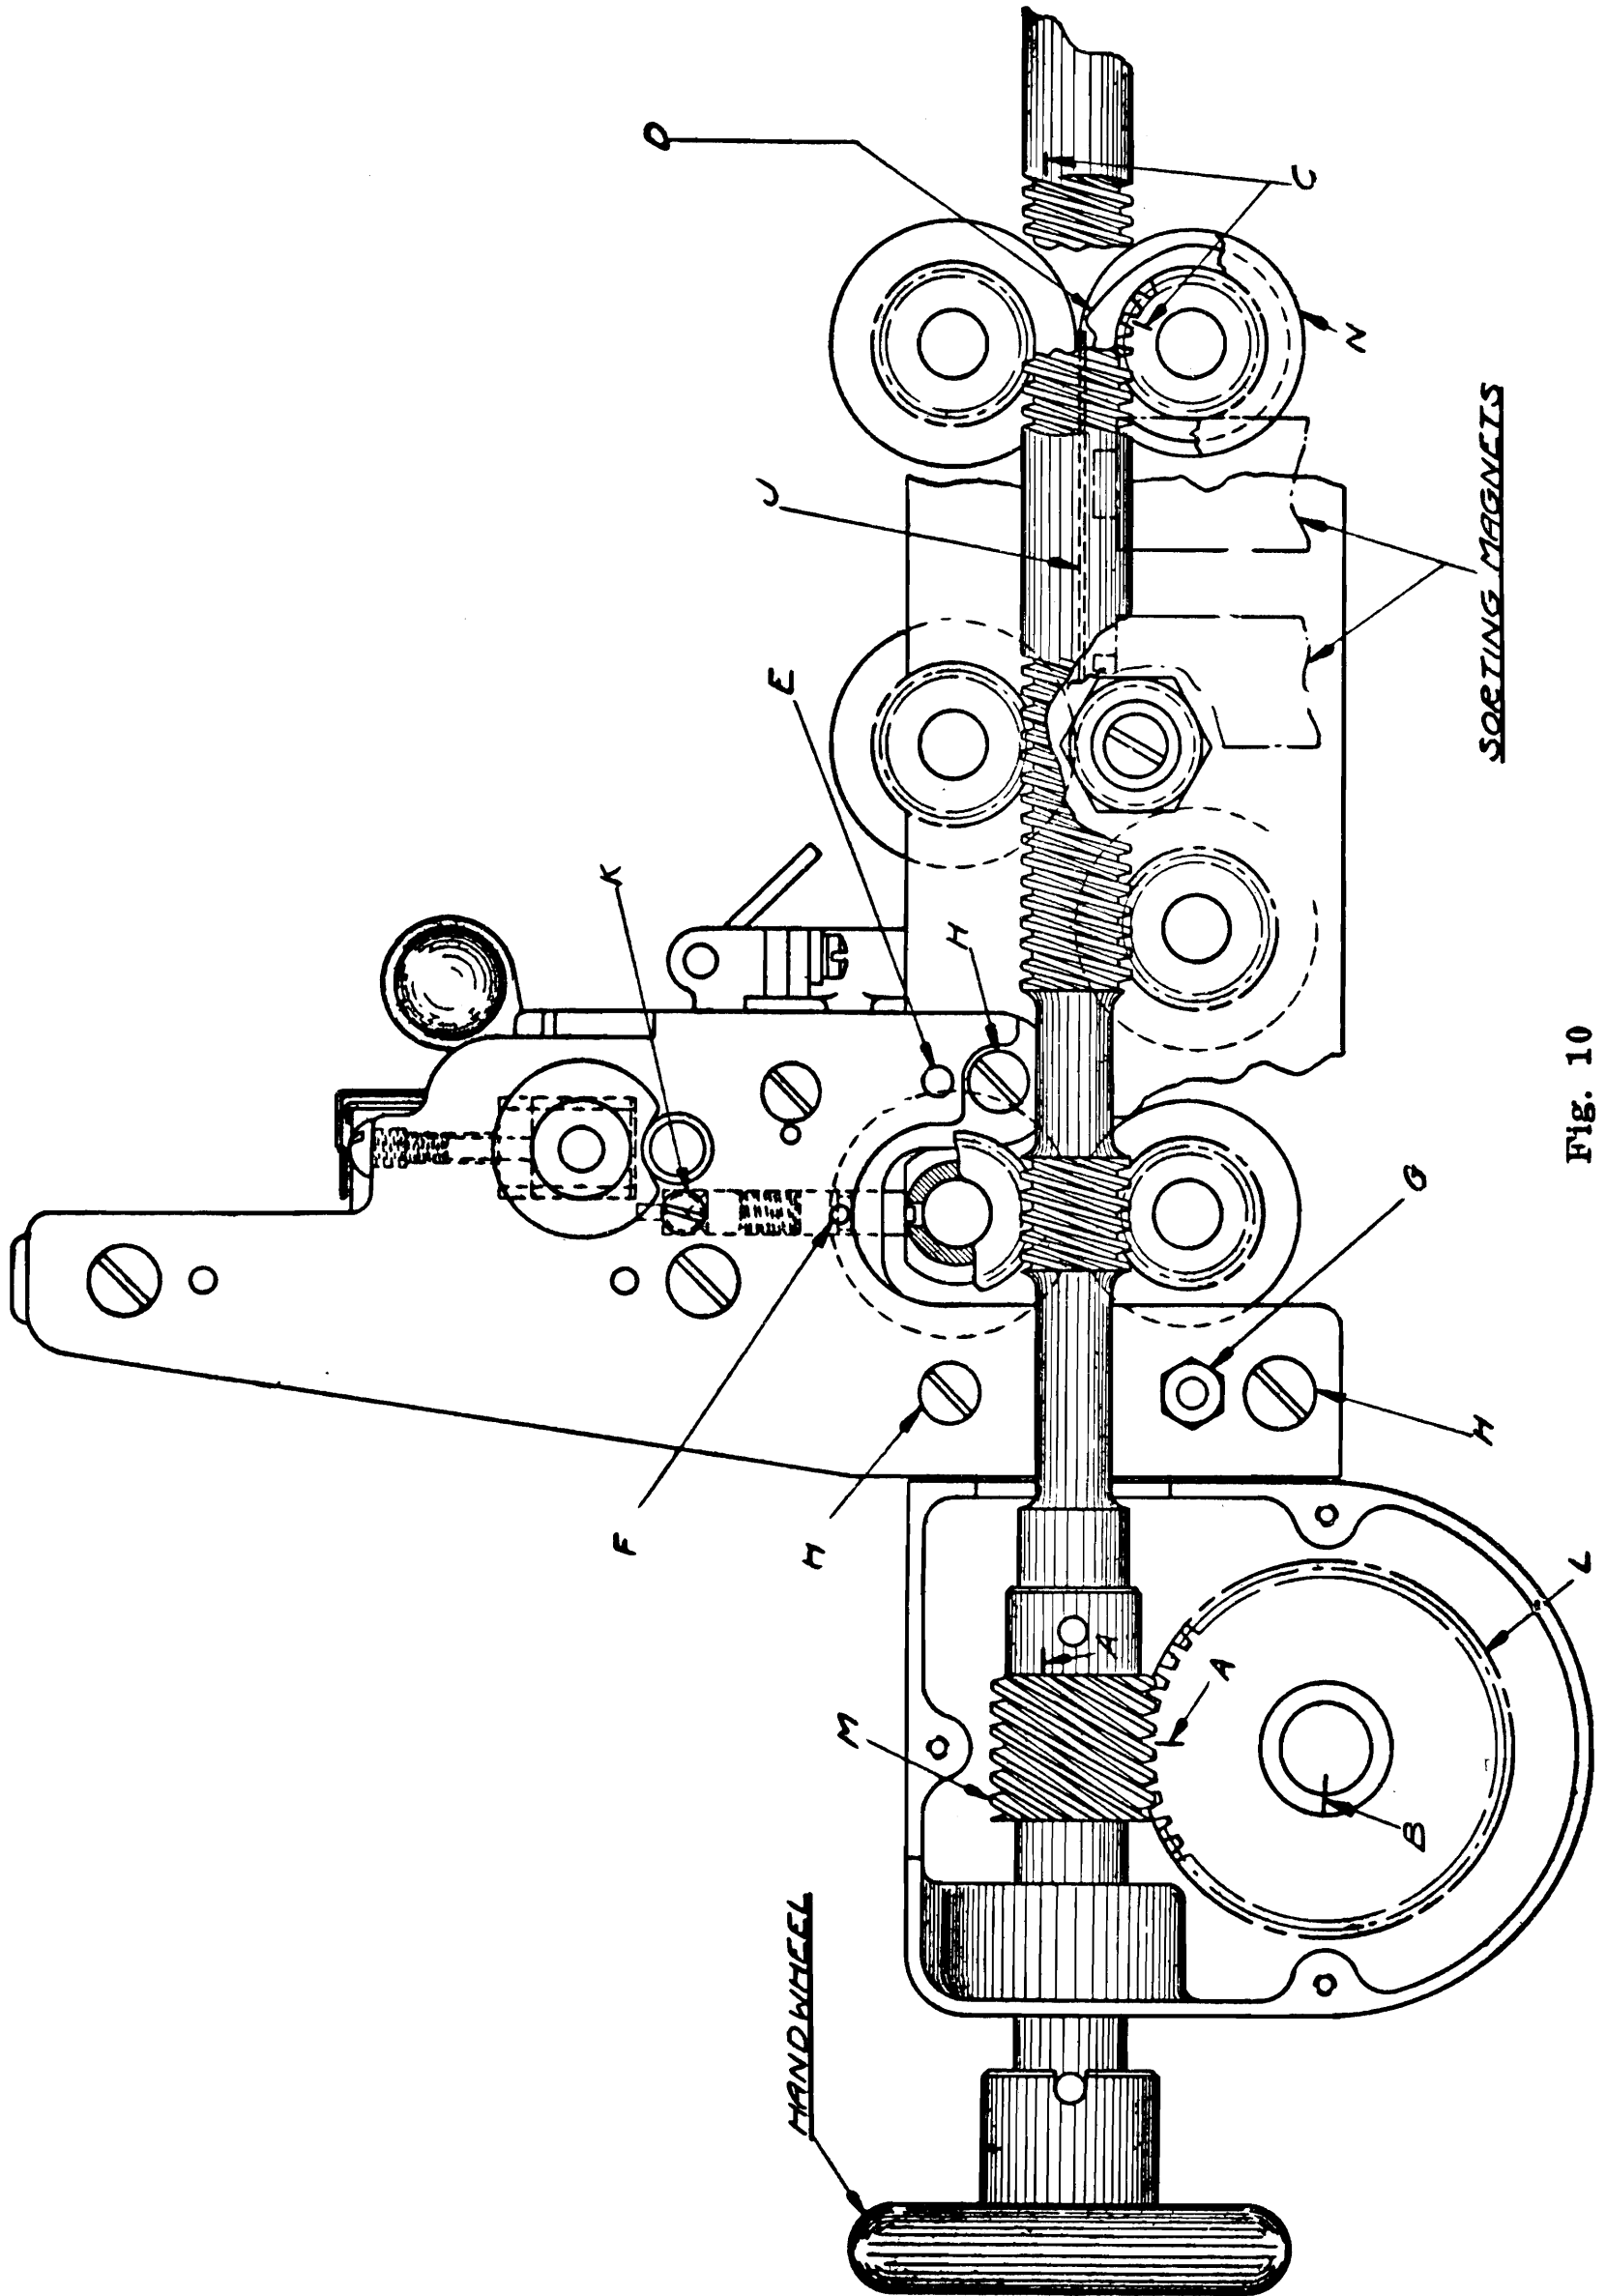

FIG. 10
5. The armature knockoff cam (D, fig. 10) is to overcome residual magnetism. It is pinned on the shaft in such a position that its high point will be just past the end of the armature when the brush makes contact through a "9" hole.
#### INDEX HEAD AND FEEDING MECHANISM (Fig. 10)
When replacing gear L mesh it with its worm driver M so that the marks A on both worm gear and its driver coincide. The scribed line B on the hub of gear L and the feed knife operating arm shaft must also coincide. If the lower feed shaft assembly N should be removed for any reason, spot marks C on the worm gear and worm shaft must also coincide, otherwise the knockoff cam D will be out of time. When contact is made thru a 9 hole in the card the knockoff cam C should be clear of the armature J (See fig. 10).
It is very important that the first three feed rolls be accurately adjusted for tension so as to insure even feeding of cards. The adjustment of the first feed roll is controlled by screws (K, fig. 10) which are located horizontally in the front and rear side frames of the index head. These screws have a cone shaped end which operate at right angles against a spring plunger which also has a cone shaped end. If for any reason the adjusting screw is removed, it cannot be replaced until the spring plunger is pushed down. This is accomplished by inserting a steel rod, similar to a sorting needle, thru the 3/32" hole directly over the spring plunger.